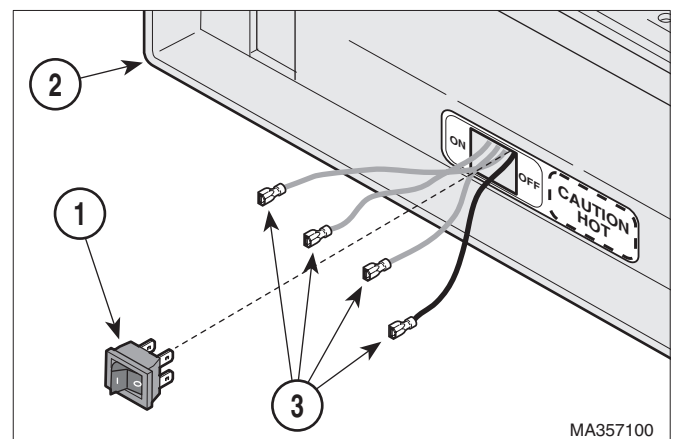

Figure 4-11. Heater ON / OFF Switch Removal / Installation
- (1) Unplug table power cord from wall outlet.
- (2) Using a standard screwdriver, carefully pry heater switch (1, Figure 4-11) out of upper wrap weldment (2), making sure not to scratch table.
- (3) Tag the wires for later assembly and disconnect four wires (3) from heater switch (1).
- (1) Connect four wires (3, Figure 4-11) to heater switch (1) (Refer to the para 5.1).